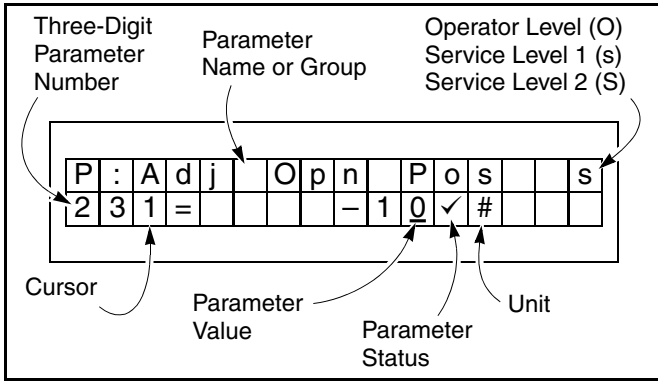

Figure 28
1. Press the enter (●) key to access close-limit setting parameter P.231. The cursor will jump to the parameter value and display the currently saved value. (See Figure 28.)